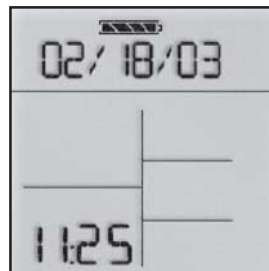

Figure 13:
4.2.5 Time and Date Display (Figure 13)